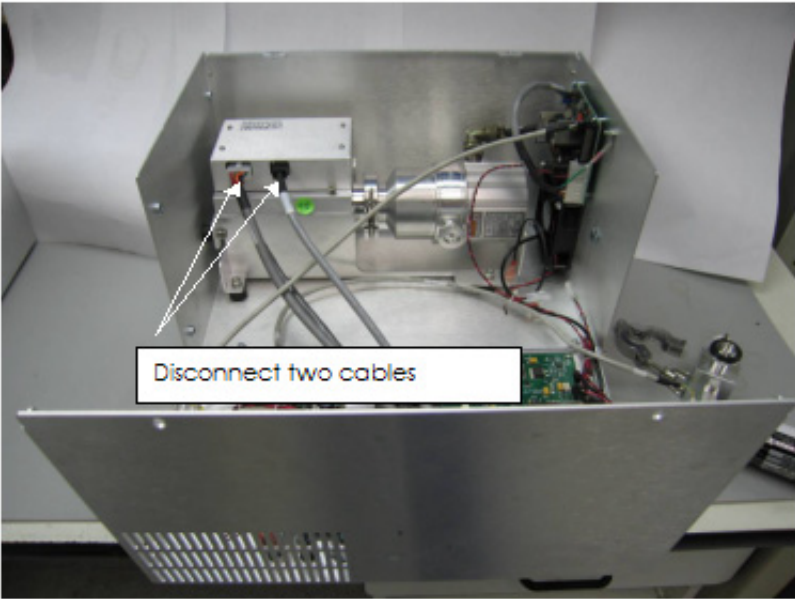

Figure 4: Cables To Spectrometer
5. Disconnect both cables from the spectrometer (Figure 4: Cables To Spectrometer).